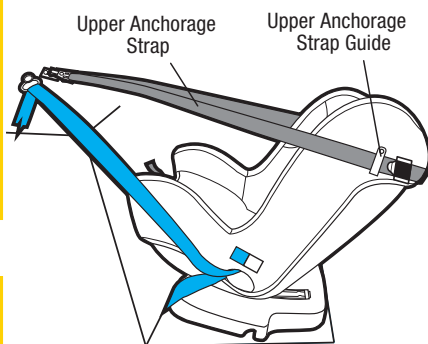

Figure 2
- Loosen upper anchorage strap (refer Figure 2).